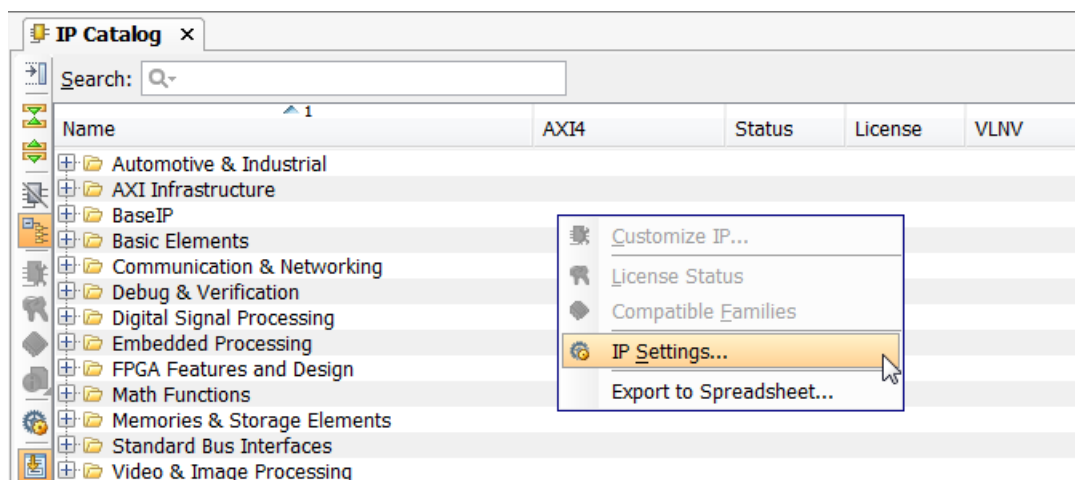

Figure 144: Ensure that IP Repository has been Updated with the Packaged Library Core
13. Right-click anywhere in the **IP Catalog** and select **IP Settings** (FIGURE 144).